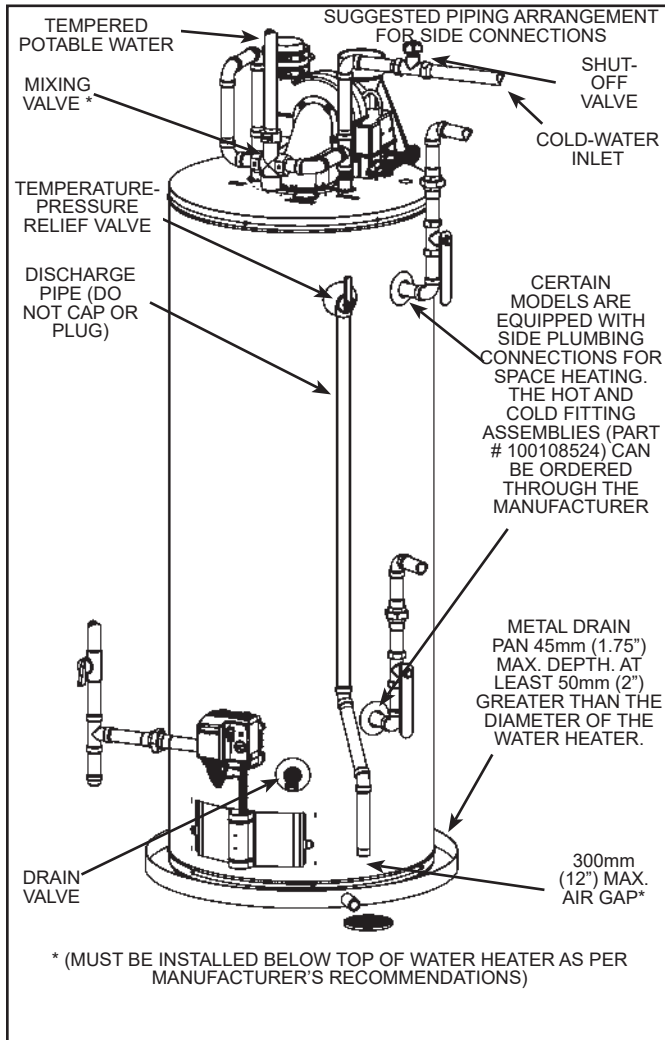
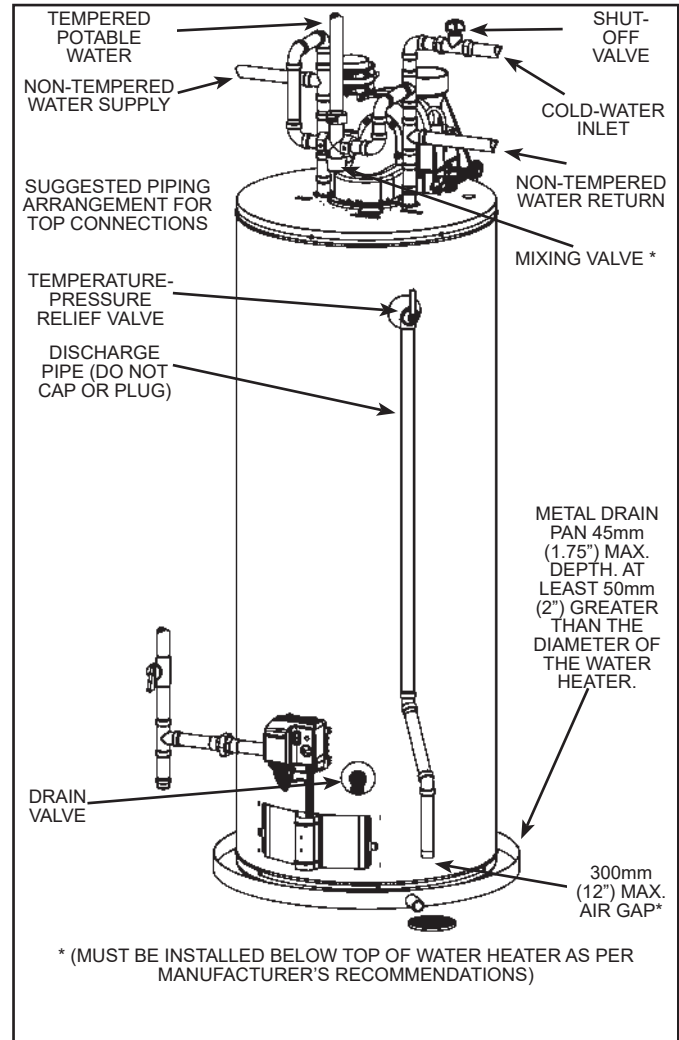

Figure 7.
Figure 8.
Models equipped with Combo Heating capabilities are shipped with the two side plumbing taps **PLUGGED** (item 6 and item 9 in Figure 1). See also Figure 7. If the heater is to be operated using the side taps for combo heating, these taps **must be opened** by removing the two pipe plugs.
In addition to using lowest possible temperature setting that satisfies demand of application, a mixing valve should be installed at water heater (see Figure 7 and Figure 8) or at hot-water taps to further reduce system water temperature.